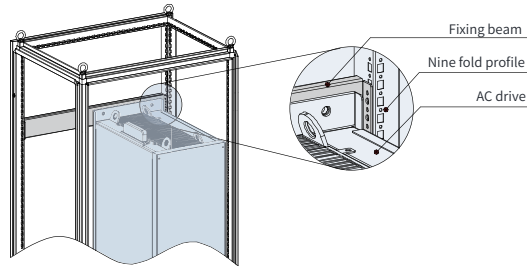

Figure 2-14 3D view of structures T10 to T12 in the cabinet
2	Secure the bottom mounting bracket, as shown in Figure 2-14.
- 2) When structures T10 to T12 are mounted in the nine fold profile cabinets of 600 mm deep, the fixing beams must fold inwards, as shown in Figure 2-14. When the AC drive is mounted in the cabinet of 800 mm deep, folding inwards is not required.